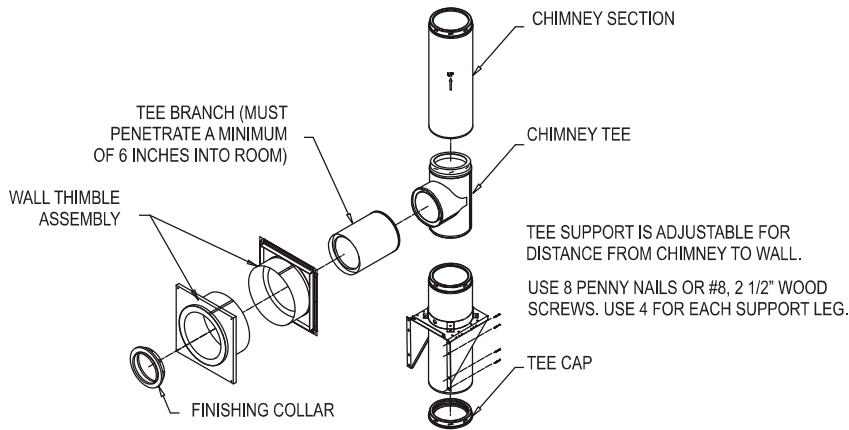

Figure 24
Tee-Supported installations are used when passing through a wall to a chimney. The Tee Support can hold a maximum of 60' of DuraTech Chimney (**Table 2**). The various support components are adjustable in length from the wall to better fit your installation. There are two options when installing a Tee-Supported installation: the Tee Support above the Tee, or the Tee Support below the Tee. The required parts and general configuration are as shown in **Fig.24, 25, 26 and 27**.
Thimble. Center the back portion of the Wall Thimble (with shield inside wall) in the framed opening of the outside wall (**Fig.24**). Be sure to seal the flange of the Wall Thimble around the wall by using a non-hardening waterproof sealant. Attach the back portion of the Wall Thimble to the outside wall using at least (4) 8-penny nails or (4) #8, 1-1/2" wood screws. There must be a continuous shield within the wall. If the two halves of the Wall Thimble do not overlap, a field-fabricated extension constructed out of 26-gauge galvanized or stainless steel is needed. Non-combustible insulation that adheres to the specifications outlined on page 4 may be inserted into the Wall Thimble. Do this by wrapping an insulation blanket around the pipe between the thimble sleeves. Ensure the butting edges of insulation are pointing downward. Smaller pieces of insulation may be used to fill in the corners of the thimble pass-through. Do not compress the insulation more than 25% or you may adversely affect the thermal resistance of the insulation.
4. Install Tee Support: Install the Tee Support on the outside wall. Position Tee Support so that the chimney Tee will be centered inside the Wall Thimble (**Fig.24, 25, 26 & 27**). The Tee Support may be installed either above the Tee or below the Tee (within one pipe section), as seen in **Fig.25**. See **Table 2** for weight bearing values of components. Important: Verify that Tee Support is level, and secure the Support to the wall using (4) #8, 2-1/2" screws for each side. Slide support base over leg brackets to adjust for desired clearance to wall, and secure by tightening bolts (**Fig.24 & 25**).
used to penetrate through the wall must extend at least 6" into the room (**Fig.24 & 27**). Use high-temperature sealant (500°F) to seal between the Wall Thimble and the Chimney on the outer wall.